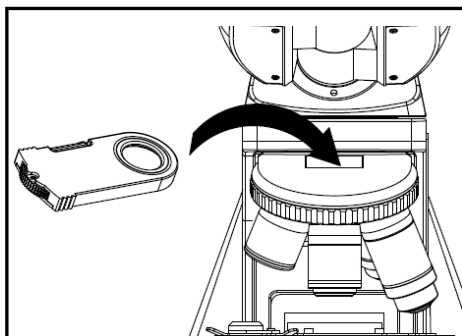

Fig.41
2. Open the stopple on the nosepiece and insert the analyzer, as shown in figure 41.